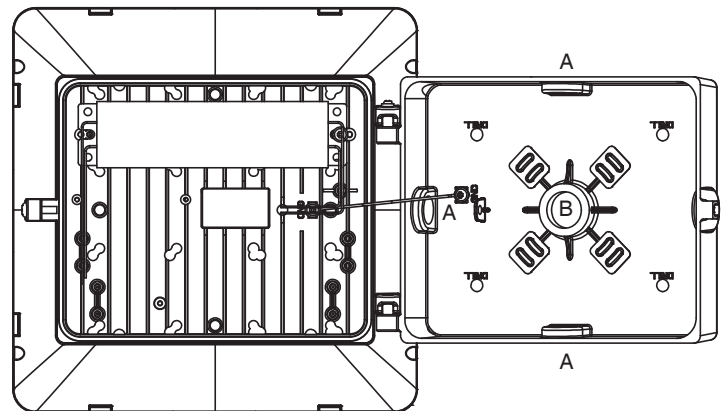

FIGURE 1
- Remove 1/2" plug in center (B) for wiring. The fixture supports standard 3 1/4" and 4" junction box.
- Mounting of fixture can be achieved by one of the methods below (see figure 1):